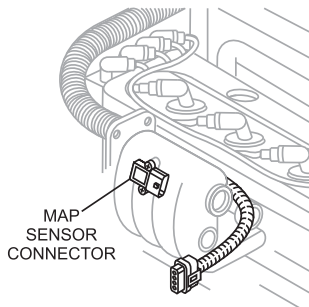

Figure 31. MAP Sensor Connector
1. Open hood and disconnect MAP sensor connector. See Figure 31.
10. To correct MAP sensor error, remove jumper wire, reconnect MAP sensor connector (See Figure 31) and restart engine. It may be necessary to restart and stop the engine a few times in order to clear the error from the check engine warning lamp. Allow engine to run 3 to 5 minutes.